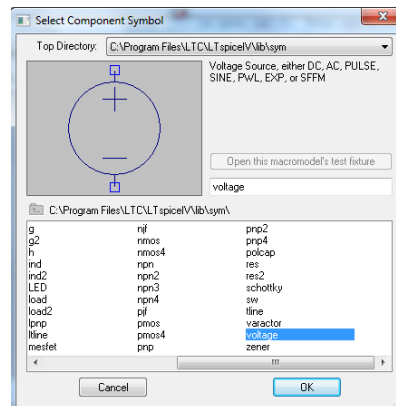

Figure 3
- 2) Now we will start at the left side with the voltage source. Click on the “Component” button  and select “voltage” from the menu, as in figure 3.